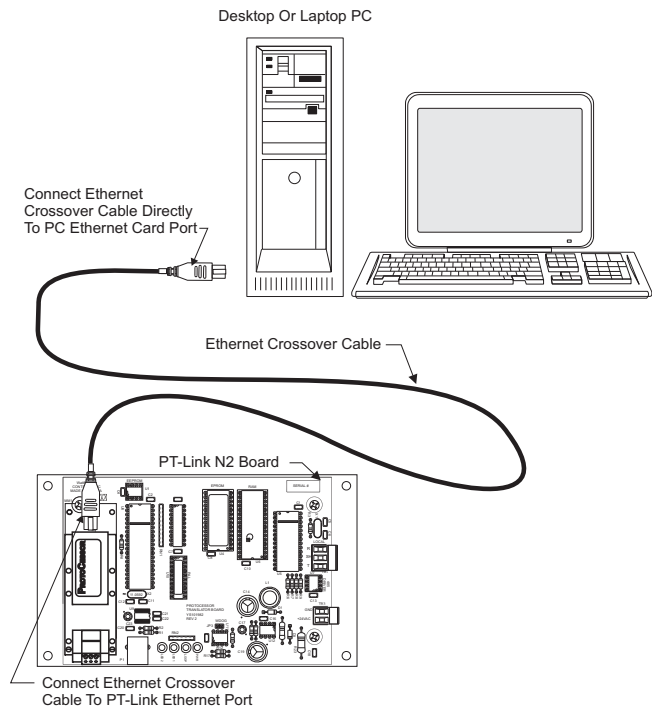

Figure 3: Connecting With Crossover Cable
- 1.) You may connect the PT-Link directly to your PC by using a crossover cable (by others) as shown. **See Figure 3** for details.